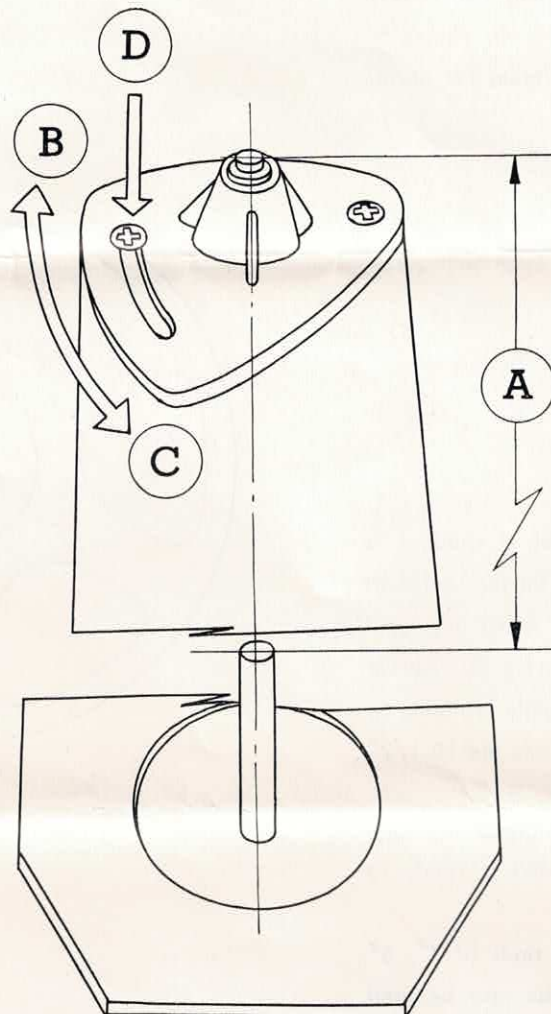

Fig 6
6. ADJUSTMENT : (Refer to Fig. 6.)